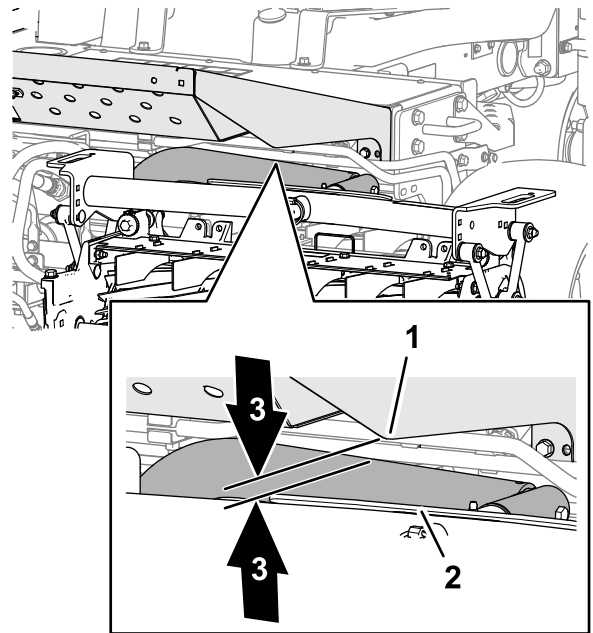

Figure 26
- At the front cutting units, measure the distance between the left lift arm and the floor plate bracket, and the right lift arm and the floor plate bracket (Figure 26).